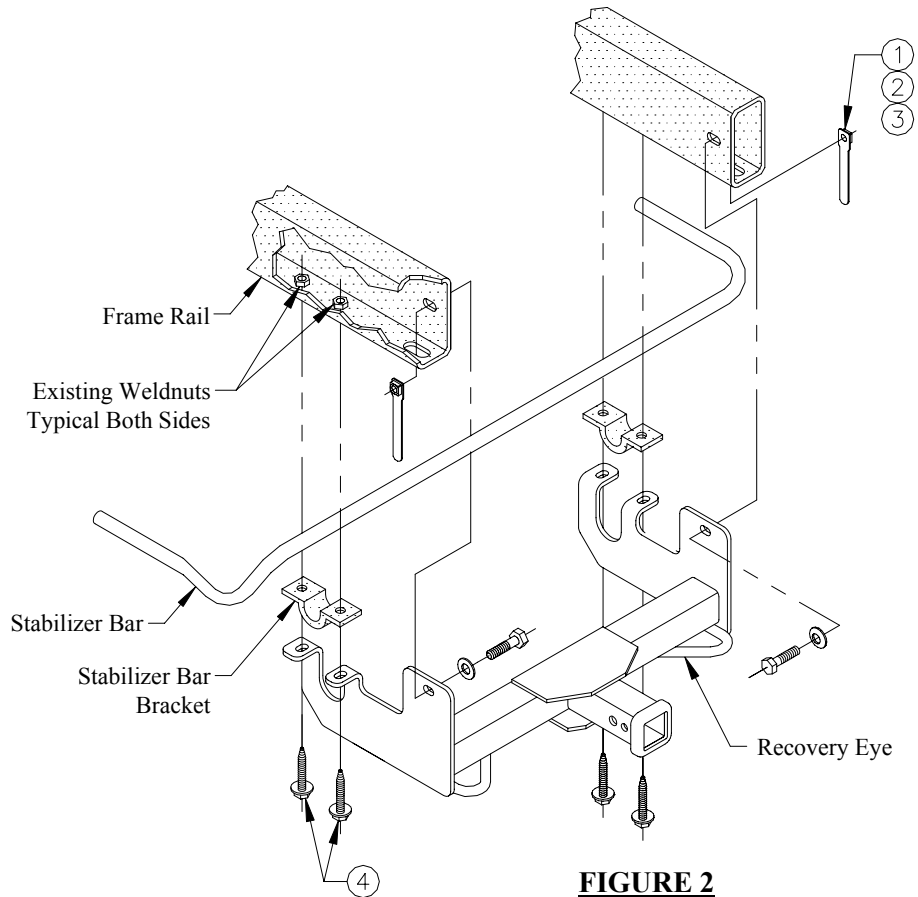

FIGURE 2
3. Raise receiver into position, sandwiching stabilizer bar bracket between receiver and frame rail, and install all fasteners as shown in Figure 2.